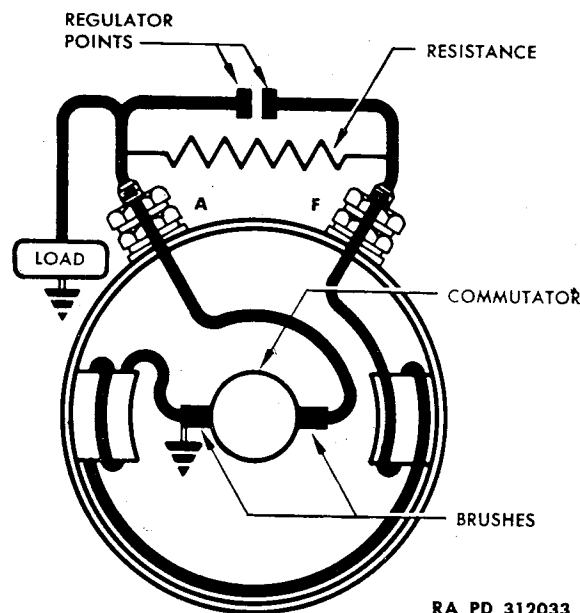

Figure 2—Type Two Generator—Internally Grounded Field Circuit
d. Figure 2 illustrates a simplified wiring circuit for type two generator. The field circuit is connected inside the generator to the grounded brush. Outside the generator, the other end of the field circuit is connected to the insulated brush through a resistance or through a set of points.